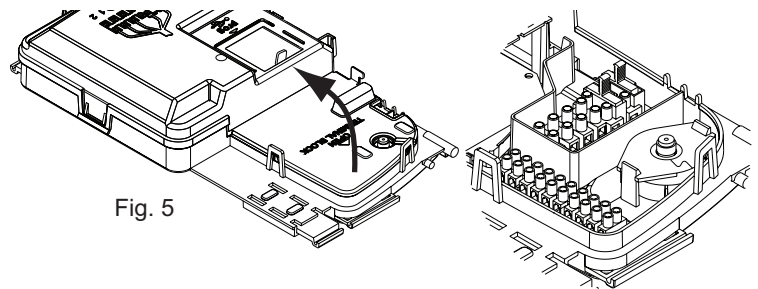

Fig. 5
6. Disengage the securing tabs and open the boiler terminal block cover, Fig. 5.